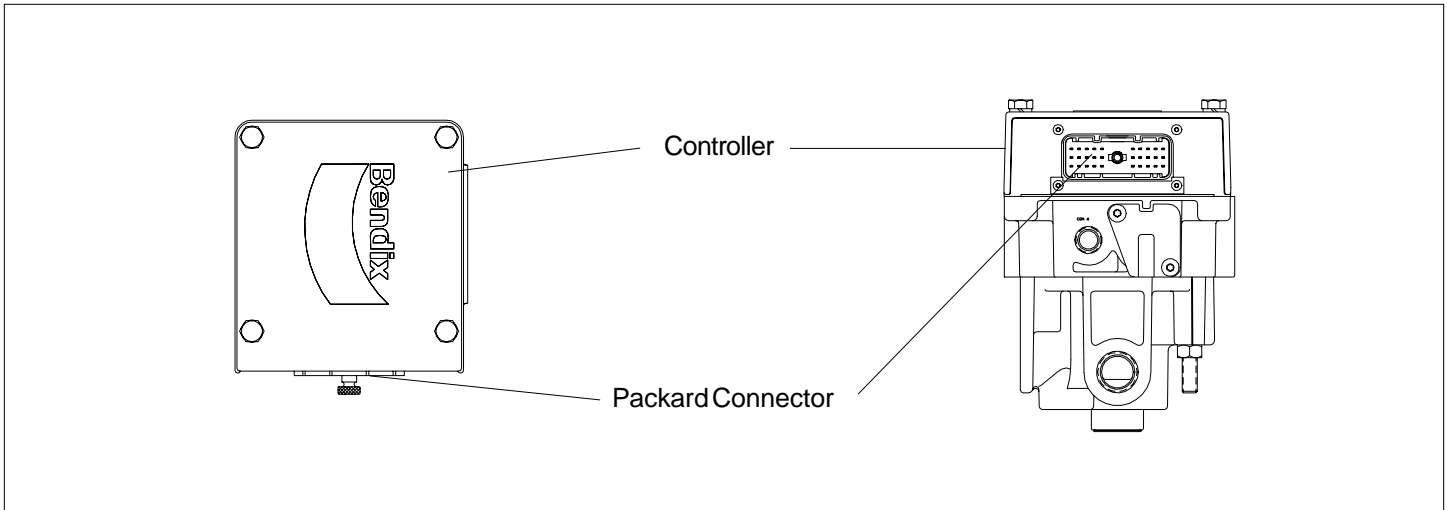

FIGURE 1 MC-14 Modulator Controller Assembly (30 Pin Packard Connector)
4. Refer to Figure 1 when installing the MC-14 wire harness assembly. Note the position of locating lugs on the connector halves. **DO NOT FORCE THE CONNECTOR HALVES TOGETHER.**